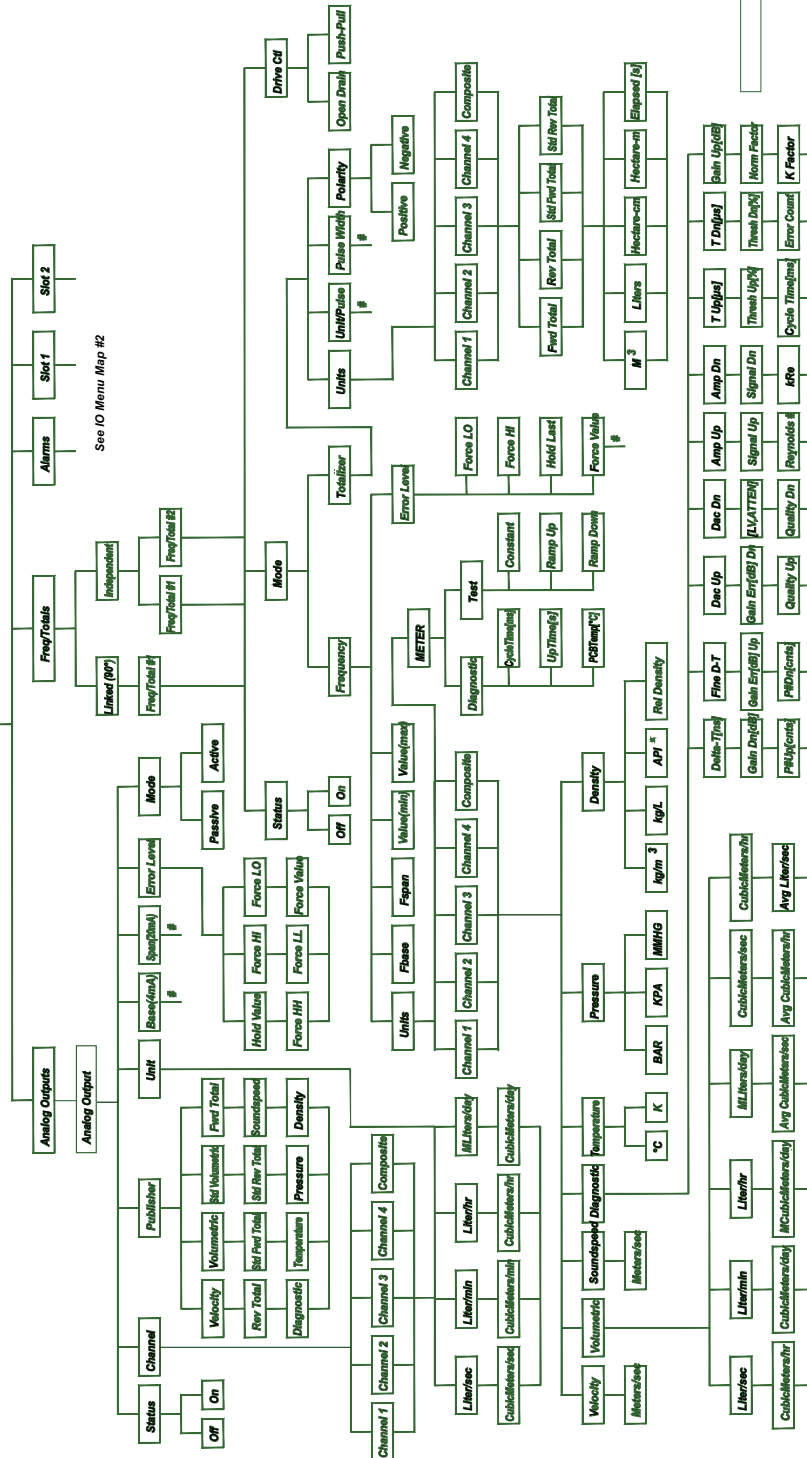

Figure 69: IO-ANALOG OUTPUTS and IO-FREQ/TOTALS menu map
- Figure 69, "IO-ANALOG OUTPPUTS and IO-FREQ/TOTALS Menu Map," on page 95